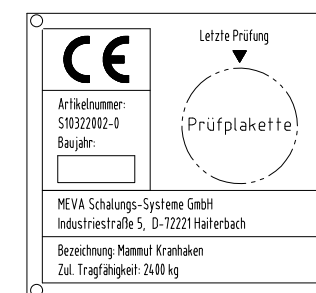

Fig. 8 Data plate
- that the data plate is legible (Fig. 8)